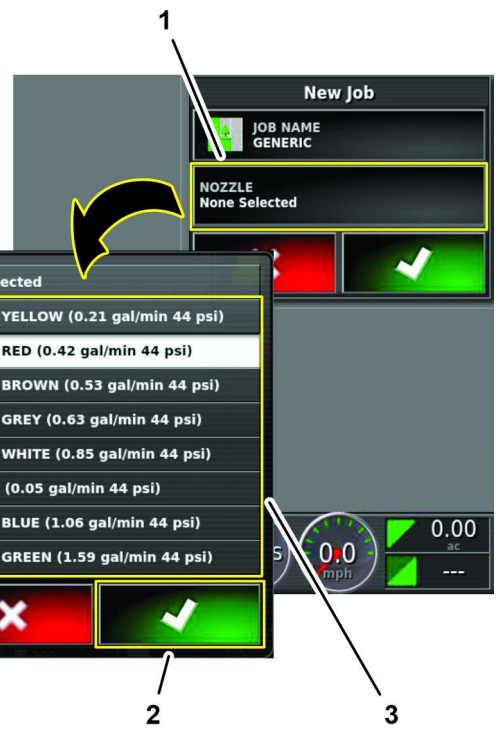

Figure 277
3. In the new job dialog box, press the NOZZLE icon (Figure 277).
4. In the nozzle selection list, press any nozzle icon, and press the confirm icon (Figure 277).